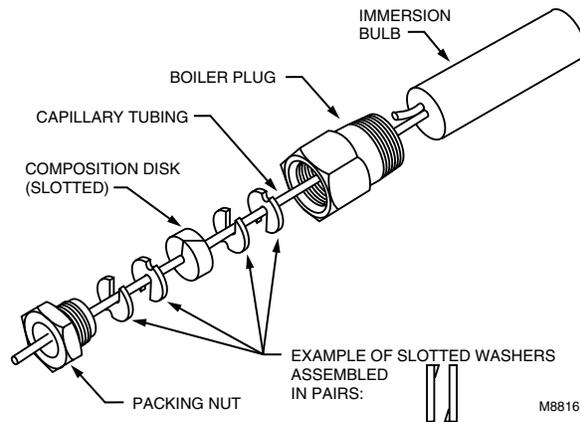

Fig. 5. Capillary compression fitting for L8100 remote bulb.
The remote temperature sensing bulb is installed in an immersion well (Fig. 4) or located near a capillary compression fitting (Fig. 5) that extends into the upper portion of the tank to prevent stacking.
- ❶ Use tapping provided by manufacturer, if possible, or select an area where typical water temperature is best measured.
- ❷ If tank is filled, drain to below point where bulb will be installed.
- ❸ Screw fitting into boiler tank tapping.
- ❹ Place packing nut on tubing.
- ❺ Slide bulb completely through fitting.
- ❻ Place composition disk and four slotted brass washers on tubing in order shown in Fig. 5. Turn brass washers so slots are 180 degrees apart.
- ❼ Slide seal assembly into fitting and tighten packing nut.